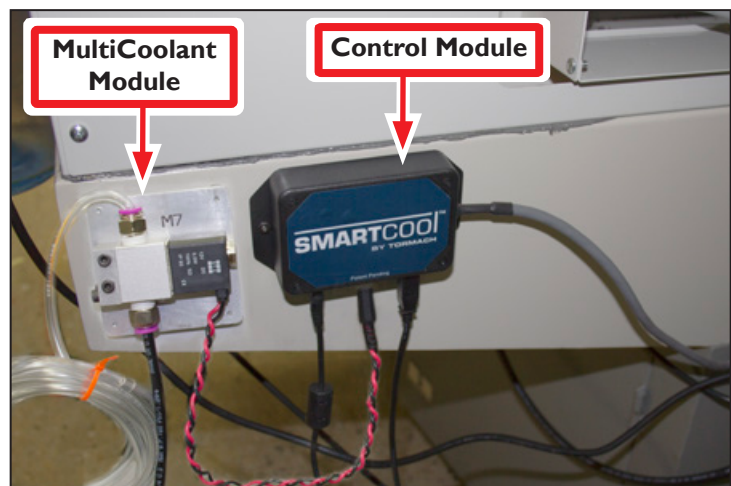

Figure 28
2. MultiCoolant Module's plate is magnetic. Place on mill near Control Module (see **Figure 28**).
3. Connect MultiCoolant Module to middle 3.5 mm jack on Control Module (see **Figure 28**).
5. Connect MultiCoolant Module to middle 3.5 mm jack on Control Module (see **Figure 28**).